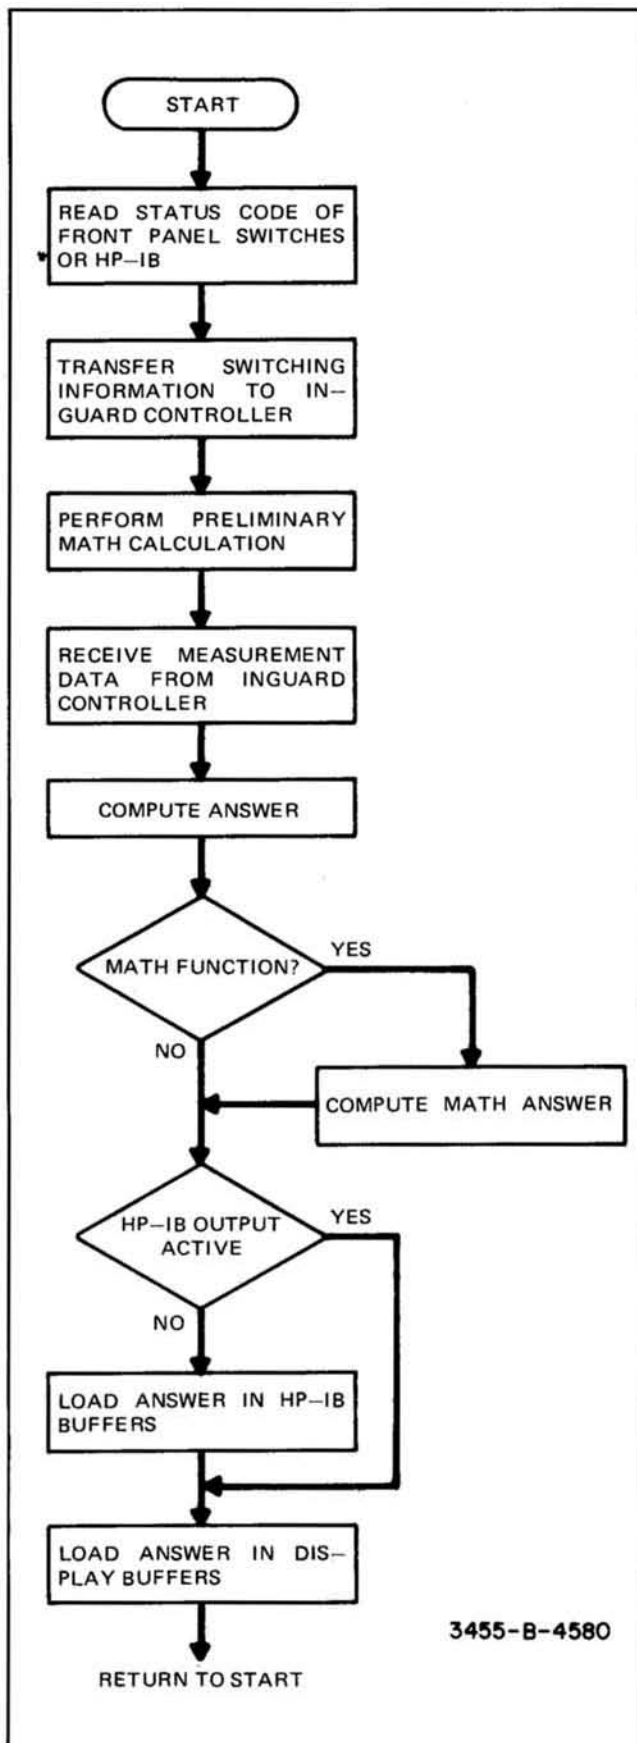

Figure 8-37. Simplified Main Controller Flowchart.
communication between the front panel, HP-IB interface, display and inguard section of the multimeter and to perform mathematical calculations to correct measurement data and provide measurement scaling or percent error readings. The following is an explanation of the operations performed by the main controller as illustrated in Figure 8-37.
- During the time the inguard controller is setting the switches and making the required measurements, the main controller computes the constants used to correct the measurement data. This step is shown in Figure 8-37 as "perform preliminary math calculations" and involves combining the offset error and full scale error readings, relevant to the measurement being made, into two constants.